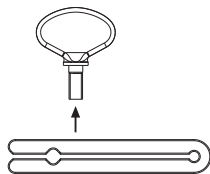

Fig. 8
- Dismount the extraction tool, see Fig. 8.